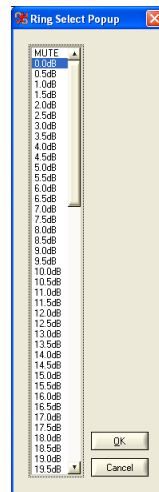

Figure 3-12 Gain Setting
To change the of gain of Lrin (C), Asout (E), MIC (F) ... etc, users just click on the function block and then a gain setting bar shows up as the Figure 3-12.